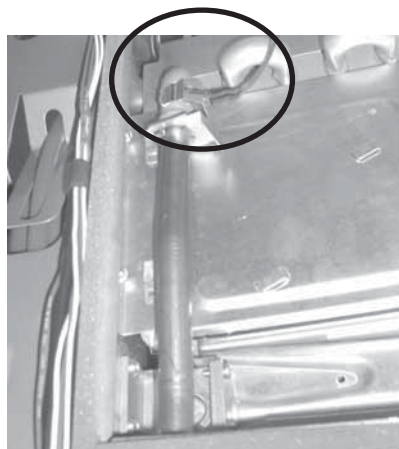

Figure 31
- The c/heating sensor is located on left side of hermetic chamber on outlet of primary heat exchanger. (Figure 31)